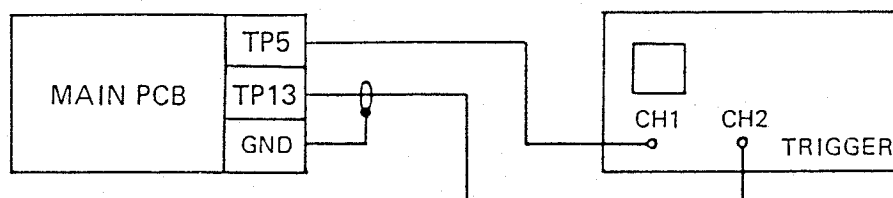

Fig. 5
2. FM peak adjustment (Fig. 5)
3. FM waveform adjustment (Fig. 5)